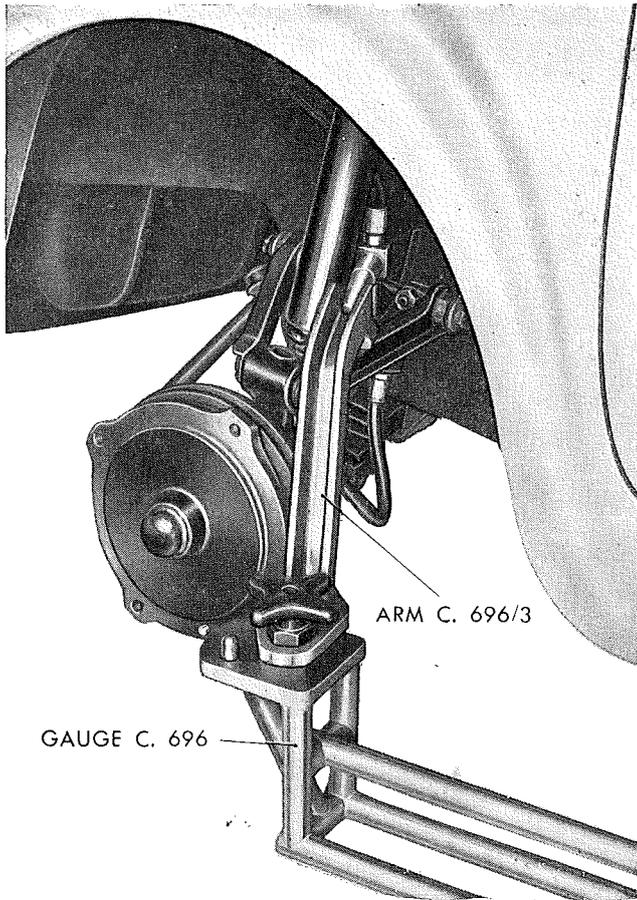

Fig. 263 - Checking left rear wheel toe-in.
e) Apply, at front of gauge C. 696, bracket C. 696/3 (fig. 263).
f) Check that the pin mounted on front end of bracket C. 696/3 is in touch with front suspension swinging arm pin (fig. 263). If this condition is not complied with, operate as outlined in g).